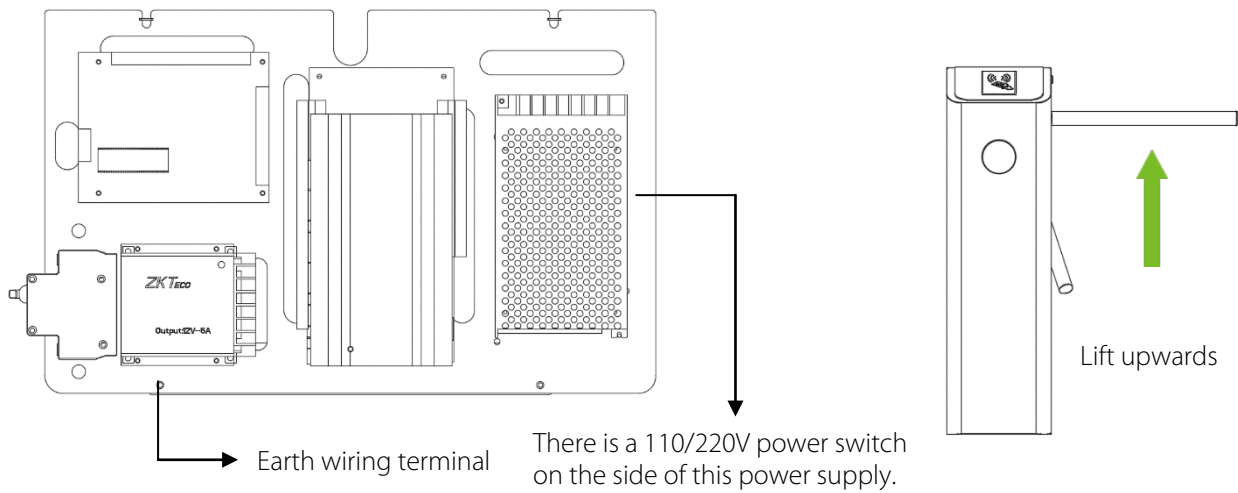

Figure 2-2
3. Lift the arms manually, as shown in Figure 2-2.